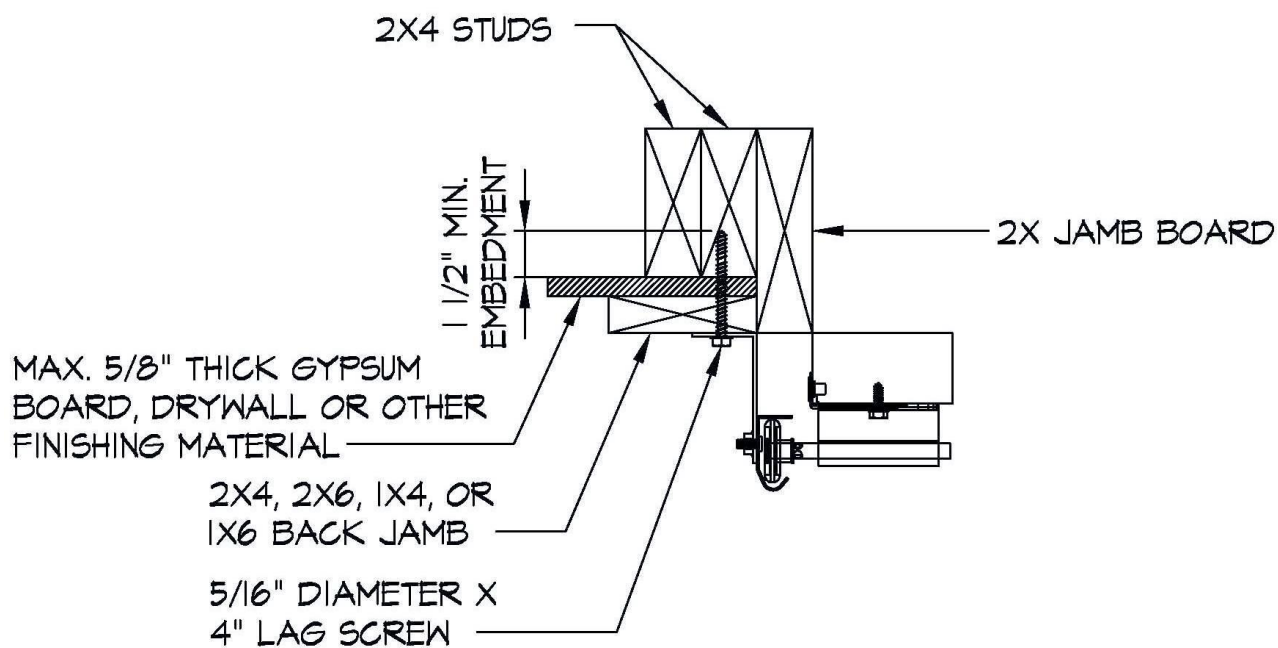

Figure 4: Attachment of garage door brackets directly to structure through wood jamb with finishing material behind jamb (Option 4)
4. **Attachment of garage door brackets directly to structure through wood jamb with finishing material behind jamb:** Brackets for the vertical tracks and flag angles of the door may be attached directly to the wall framing through a wood back jamb and wall finishing material with 5/16" x 4" lag screws as shown in Figure 4. This configuration will eliminate the need for the back jamb to have additional fastenings to the structure due to the load being transferred from the door directly to the wood framed structure. Track bracket spacing must be as specified in the Installation section of this evaluation report.